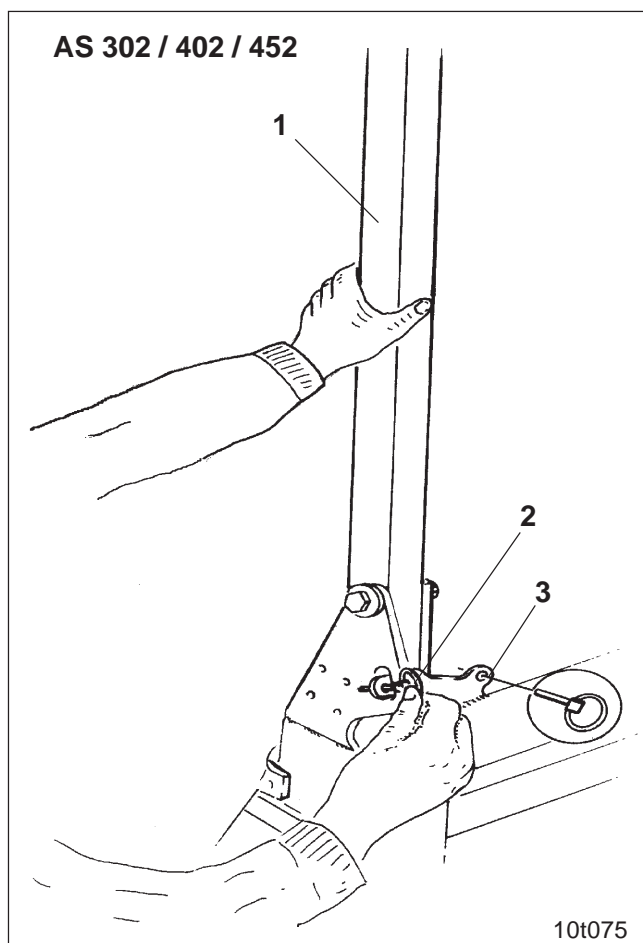
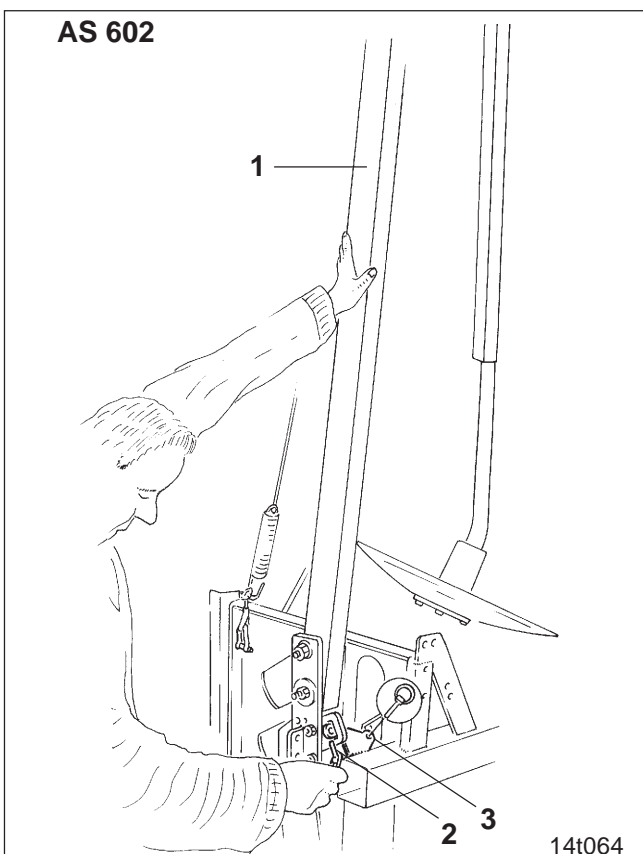

Fig. 24.10
Fig. 24.11
- Firmly hold track marker arm (Fig. 24.10/1) and remove clip pin (Fig. 24.10/2) (necessary for transport).
- If not used, insert clip pin (Fig. 24.10/2) into the bracket (Fig. 24.10/3).
- Firmly hold track marker arm (Fig. 24.11/1) and remove clip pin (Fig. 24.11/2) (necessary for transport).
- If not used, insert clip pin (Fig. 24.11/2) into the bracket (Fig. 24.11/3).
After the clip pin (Fig. 24.10 bzw. Fig. 24.11) has been removed, the track marker arm slightly tilts to the side.